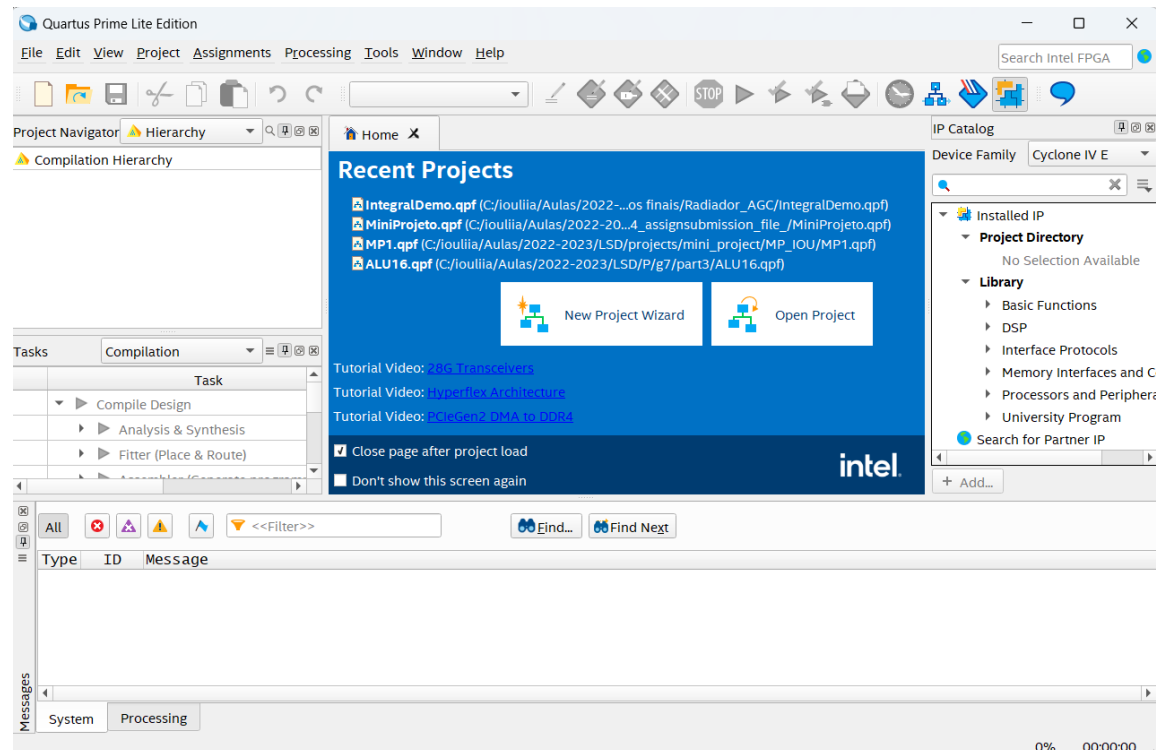

Figure 2 - Initial aspect of the "Quartus Prime" application (without any project opened).
1. Open the "Quartus Prime" application and create a new project (menu "File→New Project Wizard") according to the following steps (Figures 2 to 9).